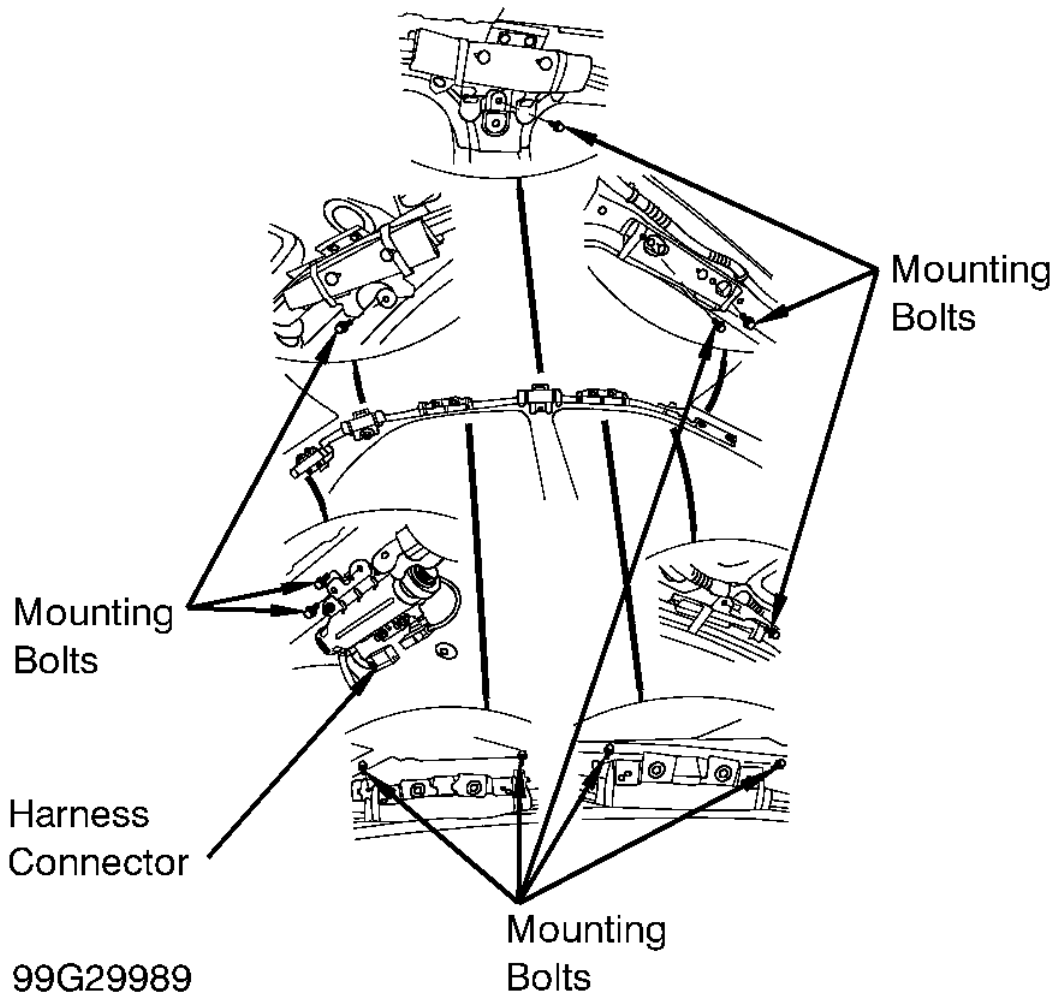

Fig. 26: Identifying Side Curtain Air Bag Module Mounting Bolts
1. Before proceeding, see **AIR BAG SAFETY PRECAUTIONS** . Disable air bag system. See **DISABLING SYSTEM** under DISABLING & ACTIVATING AIR BAG SYSTEM. Remove headliner. See **HEADLINER** . Disconnect side curtain air bag module from roof wire harness. Remove mounting bolts and side curtain air bag module. See **Fig. 26** .